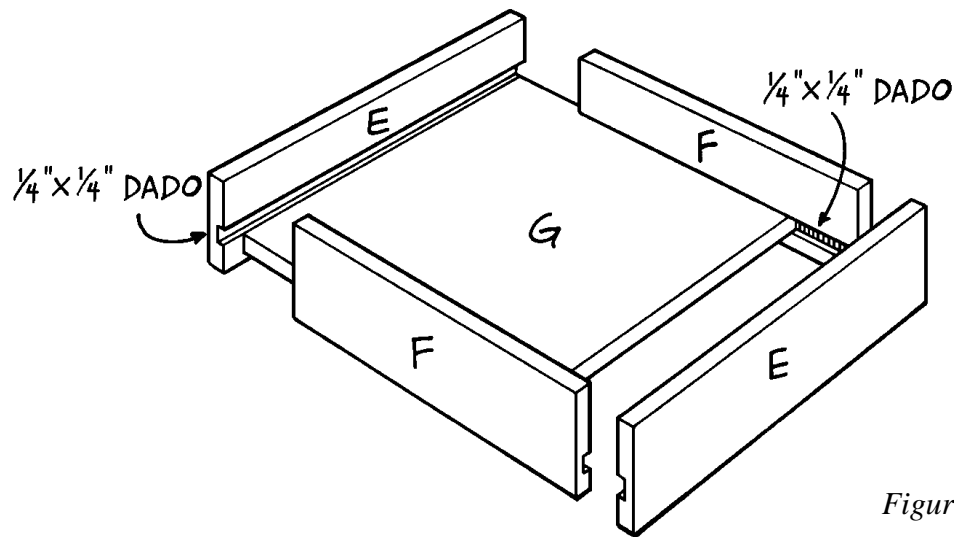

Figure 3
1. The three identical drawers for this organizer are constructed as shown in *Figure 3*. From 1 x 4 pine, cut six 8"-long drawer front/back pieces (E) and six 7-1/2"-long drawer sides (F).
2. To accommodate the plywood drawer bottoms (G), cut a 1/4" x 1/4" dado on the inside of every drawer piece (E and F), 3/4" from its lower edge.
3. Cut three 6-3/4" x 7-3/4" drawer bottoms (G) from 1/4"-thick plywood.
4. Assemble one drawer as shown in *Figure 3*. Note that the drawer front/back pieces (E) overlap the ends of the drawer sides (F). Use glue and 3d finishing nails at each end of the overlapping boards.